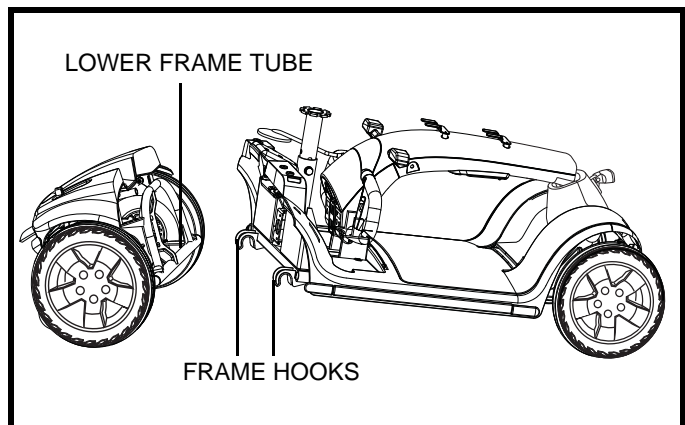

Figure 22. Frame Separation
4. Lift the front section up until the frame hooks of the front section separate from the rear section. **See figure 22.**
5. Slowly separate the two sections. **See figure 22.**
1. Position the front and rear sections of your scooter as shown in **figure 22**.